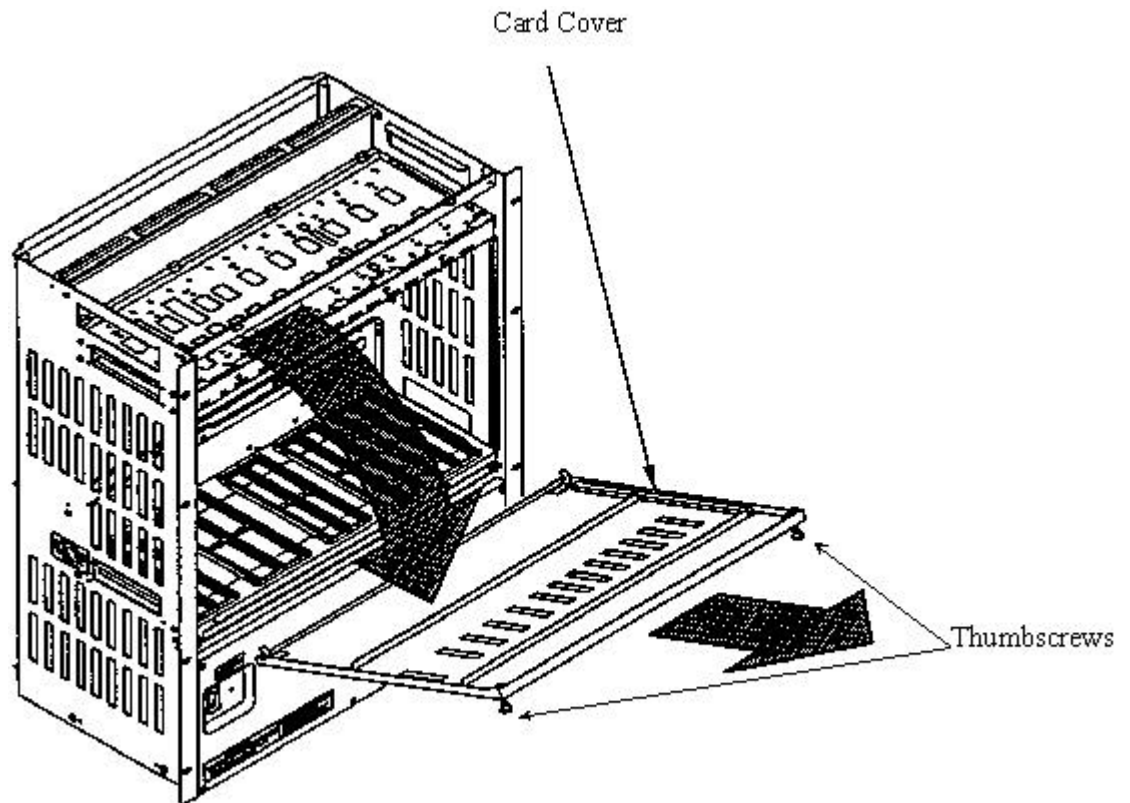

Figure 2-13: Removal of the Card Cover
3. Loosen the thumbscrews. Tilt open the cover and slide it out as shown in Figure 2-13.